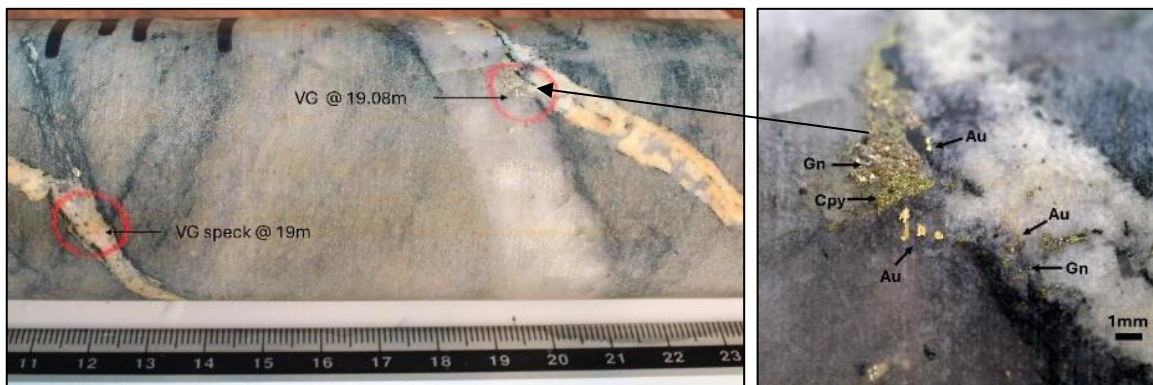

Figure 1: Examples of visible gold identified in SLDD004 – at 19.04m (associated with chalcopyrite (Cpy) and galena (Gn)).
- **Visible gold identified in drilling at the A1 prospect at 19m depth** (Figure 1), associated within a broader 13m zone of quartz veining and shearing from 9.6m downhole: